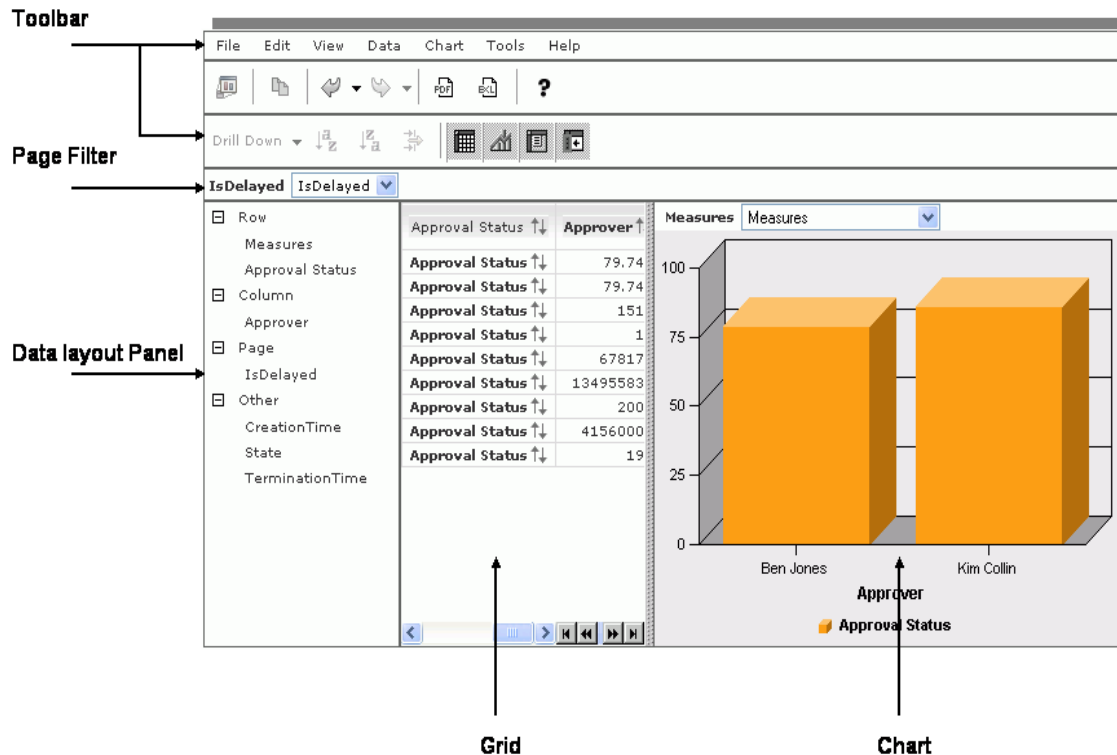

Figure 49 Alphablox PresentBlox view
- ▶ **Blox**—Blox, as in the context of building blocks, is an element in your dashboard view that you can use to control and customize your data presentation (Figure 49).